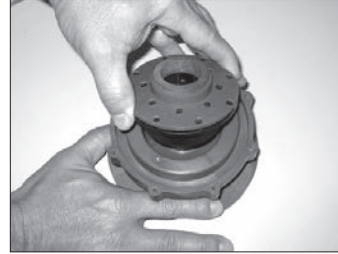

Figure 31
1. Place impeller assembly (item 3) into the motor adapter / barrier (item 4). See figure 31.